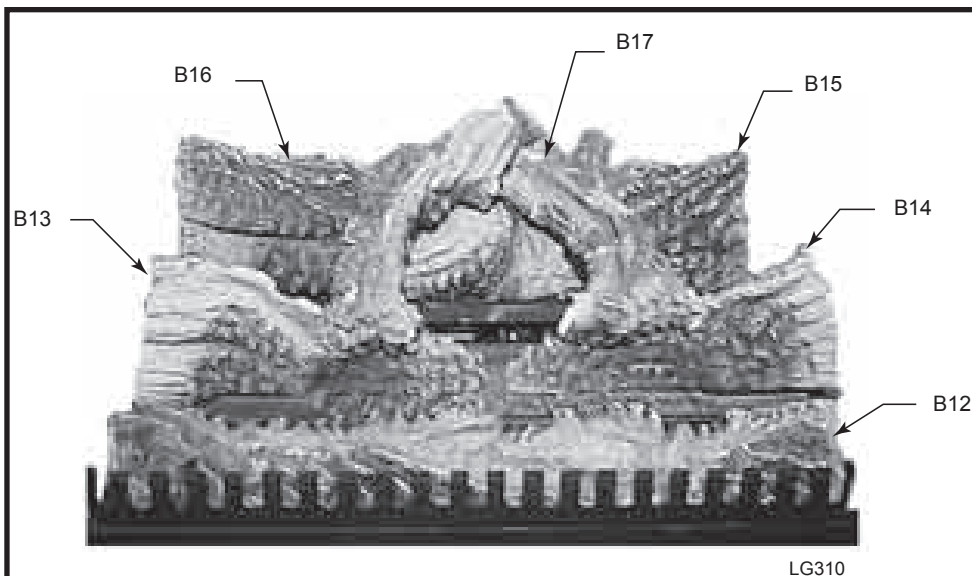

Fig. 37 DVHVAC36 log placement.
Refer to Figure 37.
7. Place burner lava rock on top of burner. (Fig. 37) Refer to "Setting Temperature Rise".